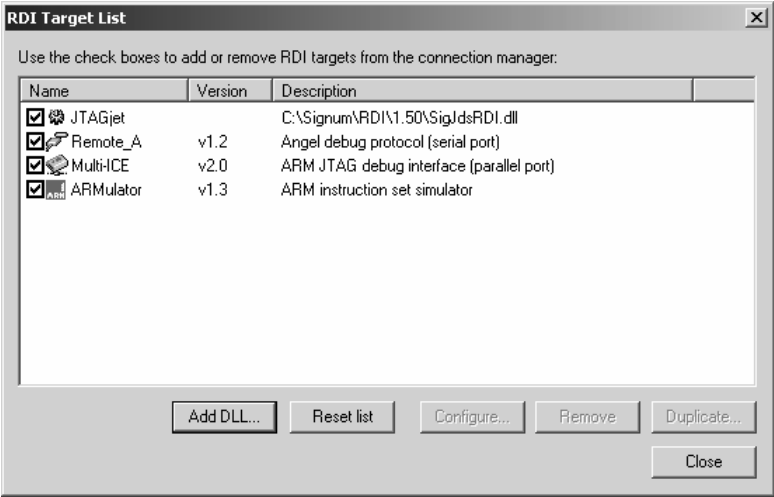

FIGURE 8 The augmented target list.
- 5. Make sure that the new target entry appears in the RDI target list (Figure 8) and close the RDI Target List dialog box.